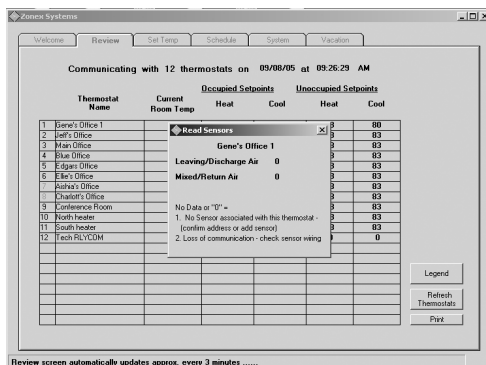

Fig. 17
- a. Place the cursor directly over a **Current Room Temperature** thermostat number with a **SENDCOM** attached; and double click on it (see Fig. 17).